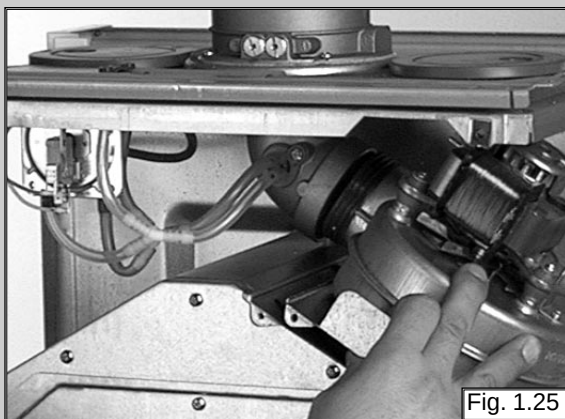

Fig. 1.25
2. Pull fan to the right, forward and remove (see fig.1.25);